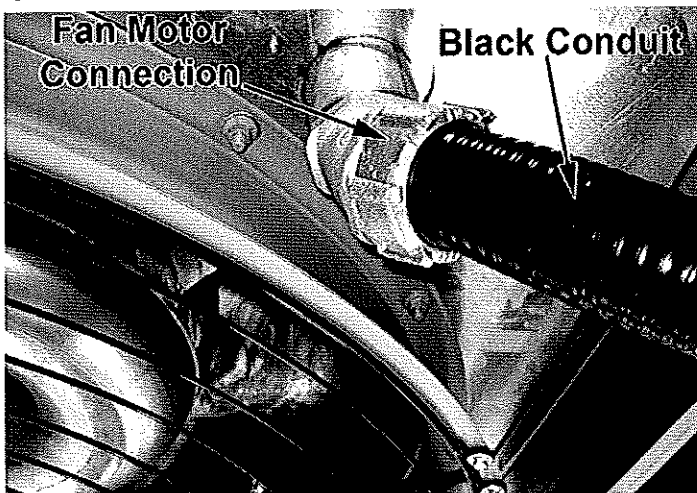

Figure 29
There is a 2" black flexible conduit containing (4) wires (red, black, blue, - power, and green - ground) for the fan motor. One end of this conduit is connected to the Fan Motor in screen section #3. See Figure 29. The other end is in cool section #2 and must be inserted into the special exit port in the cooling column of section #1. Then, connect conduit to the bottom of the High Voltage Cabinet. Once the power wires have been drawn into the High Voltage Cabinet and up to the bottom of the Overload Contactor, they must be trimmed to length, insulation removed from ends, then inserted into the proper lugs. The green ground wire is connected to the closest ground lug. If the dryer is equipped with a Soft Starter, the power wires are connected to terminal lugs 2T1, 4T2, and 6T3. The green ground wire is connected to the closest ground lug.